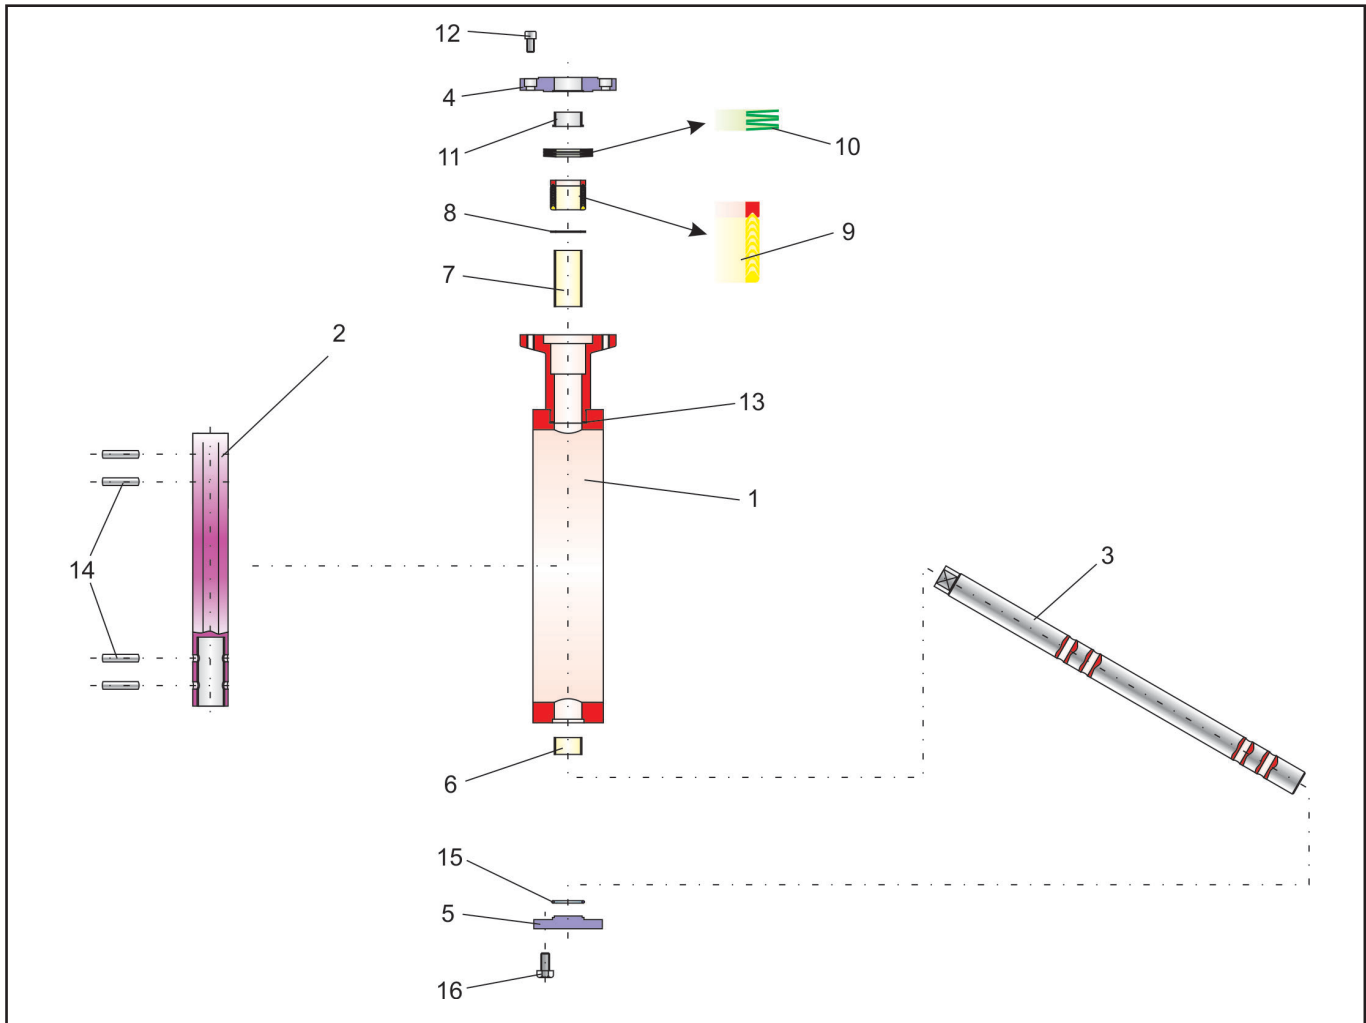

Fig. 3 – Detail drawing of the butterfly valve Series 14e
**Note:** The position and arrangement of the individual parts shown in the detail drawing (Fig. 3) are to be observed during assembly.
Slide the PTFE V-ring packing ( 9 ) together in the sequence PTFE bottom end ring, PTFE V-rings and steel V-ring over the shaft into the body hole and press down using an assembling sleeve. The arrangement of the V-rings is shown in the detail drawing (Fig. 3).
Proceed in the same manner to add the set of the spring washers ( 10 ). The arrangement of the cup springs is also shown in the detail drawing (Fig. 3).